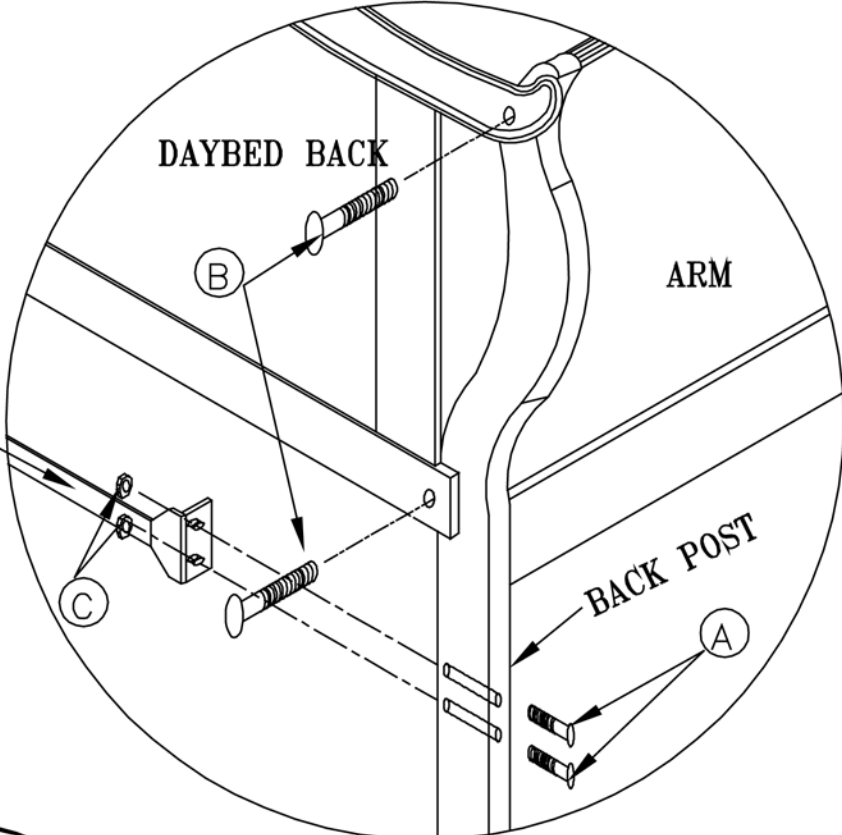

Fig. 1
- (1) Bolt one end of the mattress support system to one daybed arm. Use 4 screws (A) and 4 flange nuts (C). (See Figure 1)
- (2) Repeat Step 1 for second daybed arm.
- (3) Bolt one end of the daybed back to one arm. Insert 2 screws (B) through the back rails and into the threaded inserts in the back post. (See Fig. 1)
- (4) Repeat Step 3 for second end of daybed back.
- (5) Tighten all bolts using the Allen wrench (D) and open wrench (H).
- (6) You are now ready for mattress installation.